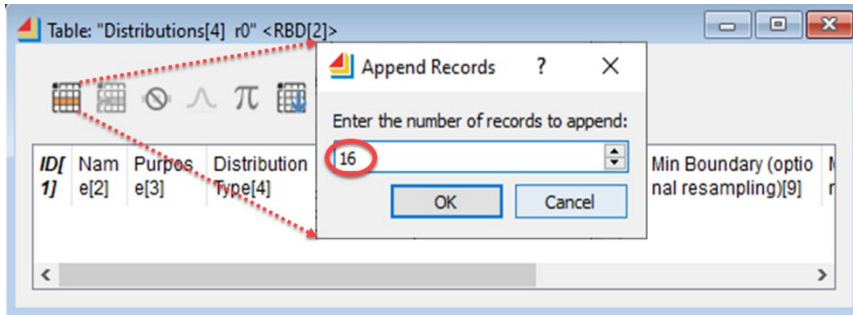

Figure 11-8: Adding rows to the Distribution table
Step 5: When the Distribution table is opened, it should be blank except for the headings. So, add 16 rows to the **Distribution** table, as shown in *Figure 11-8*.